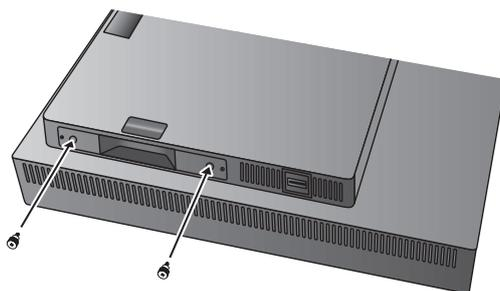

Figure G.1
2. Connect attached thumbscrews to the holes on DisplayPort's interface unit (**Figure G.1**).